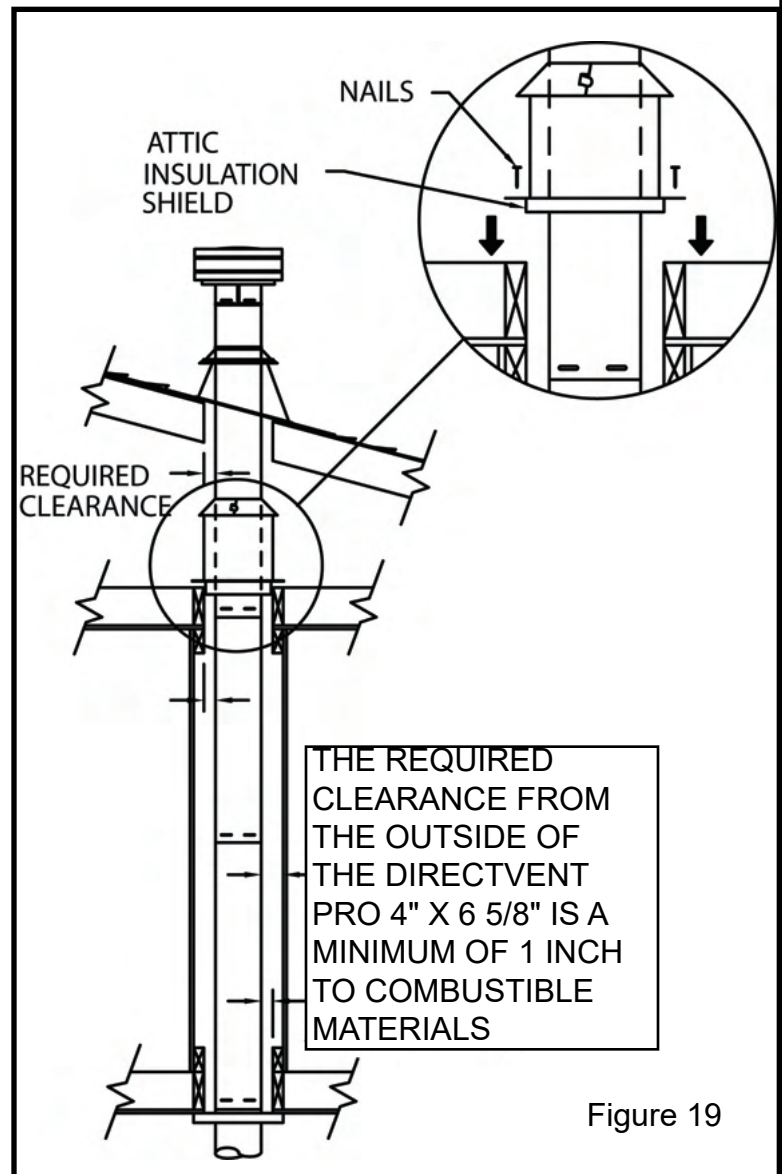

Figure 19
(1) For multi-story vertical installations, a Ceiling Firestop is required at the second floor, and any subsequent floors (Fig. 19). Refer to Table 1, page 8. Cut and frame a square opening for installation of the Ceiling Firestop.
(2) If Vent passes through any occupied areas above the first floor, including closets and storage spaces, it must be enclosed. The enclosure may be framed and sheetrocked with standard construction materials, but required 1" clearance to combustibles must be maintained. Do not fill required air spaces with insulation.
(3) If venting system passes through an attic space the Attic Insulation Shield or a chase enclosure must be installed to prevent contact between Pipe Sections and the insulation or other debris. For the Attic Insulation Shield, nail the base to floor of attic and adjust shield for appropriate insulation level, then attach the collar at the top of assembly (Fig. 19).
Pipe Sections and the insulation or other debris. For the Attic Insulation Shield, nail the base to floor of attic and adjust shield for appropriate insulation level, then attach the collar at the top of assembly (Fig. 19). For a chase enclosure, it may be constructed out of sheetrock or similar building materials and framed around the support box or the pipe, maintaining the 1" clearance to combustibles. For vaulted ceilings a chase enclosure must be constructed as the Attic Insulation Shield can not be installed.
Pipe Sections and the insulation or other debris. For the Attic Insulation Shield, nail the base to floor of attic and adjust shield for appropriate insulation level, then attach the collar at the top of assembly (Fig. 19). For a chase enclosure, it may be constructed out of sheetrock or similar building materials and framed around the support box or the pipe, maintaining the 1" clearance to combustibles as required by the appliance manufacturer. For vaulted ceilings a chase enclosure must be constructed as the Attic Insulation Shield can not be installed.